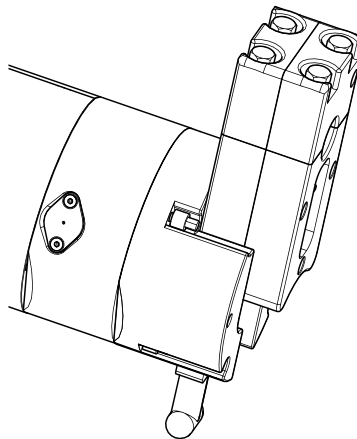

Figure 4. End-Cap with Pressure Sensor (750 meter Shown)
- The DVS is available with a pressure sensor for the 750 meter and the 6000m depth rated variations (Figure 4).